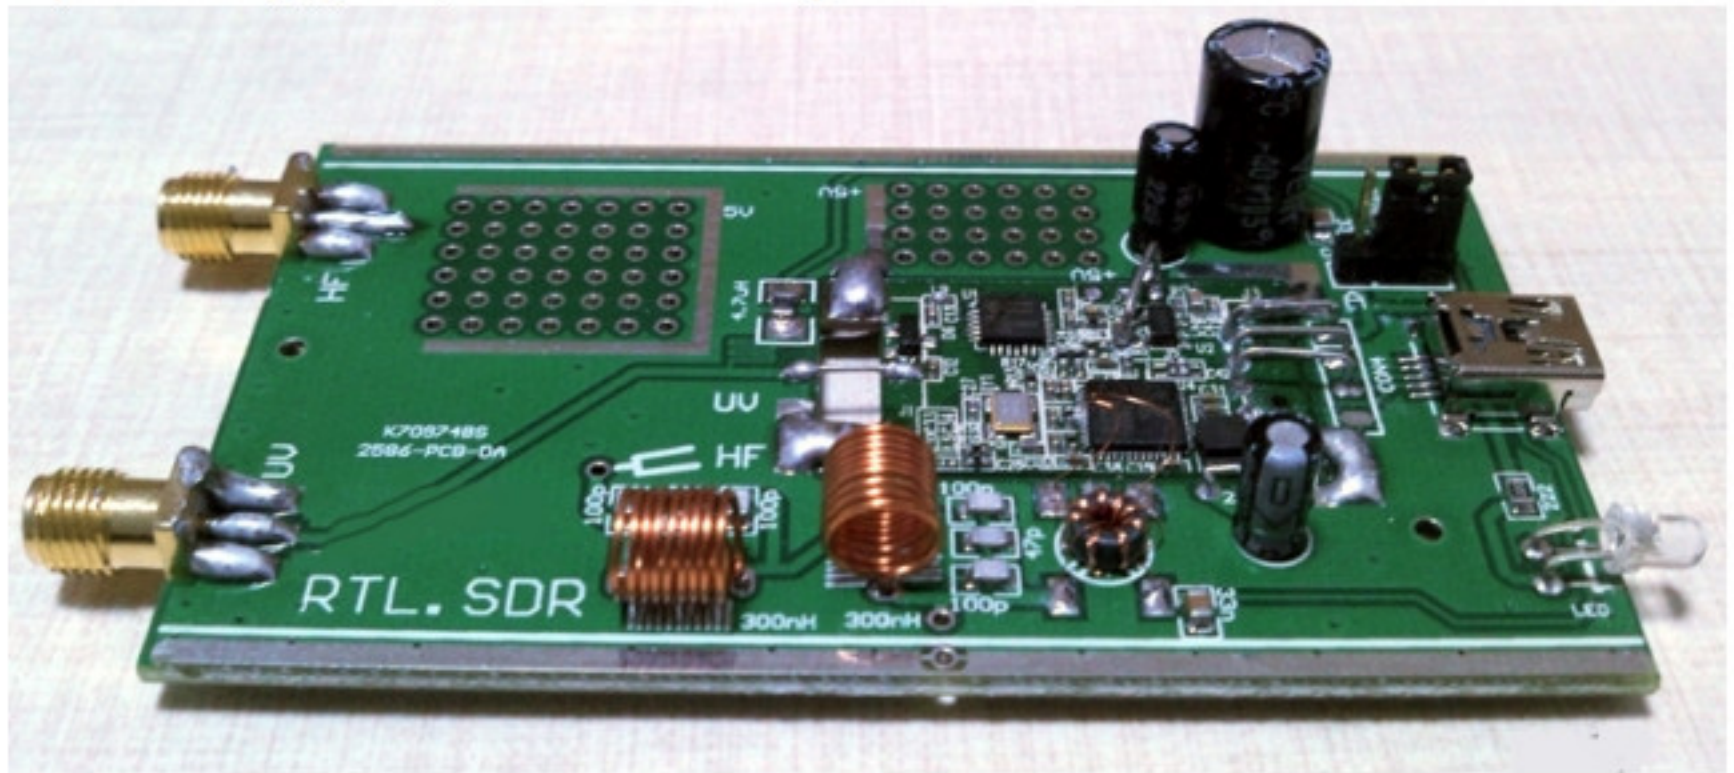

Figure 14
Step 10: Solder SMA lead.(Reference Figure 14)
Step 11: According Figure 14, check the circuit board you soldered.